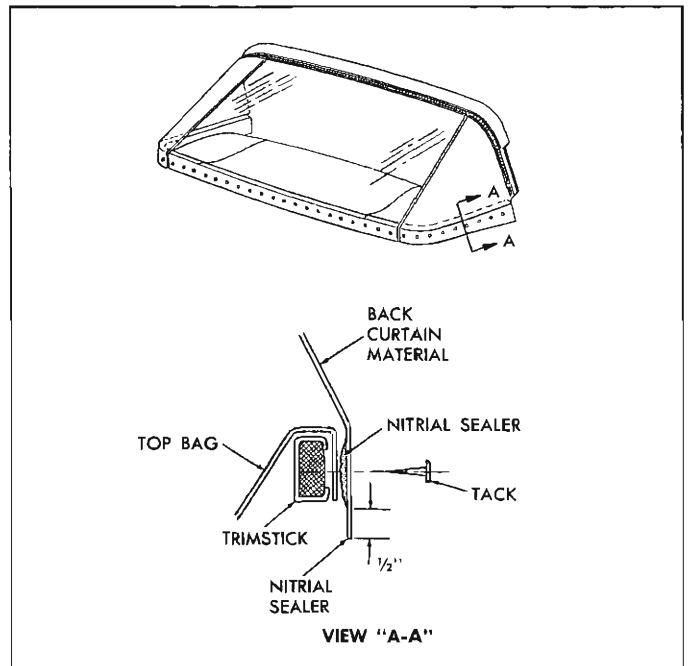
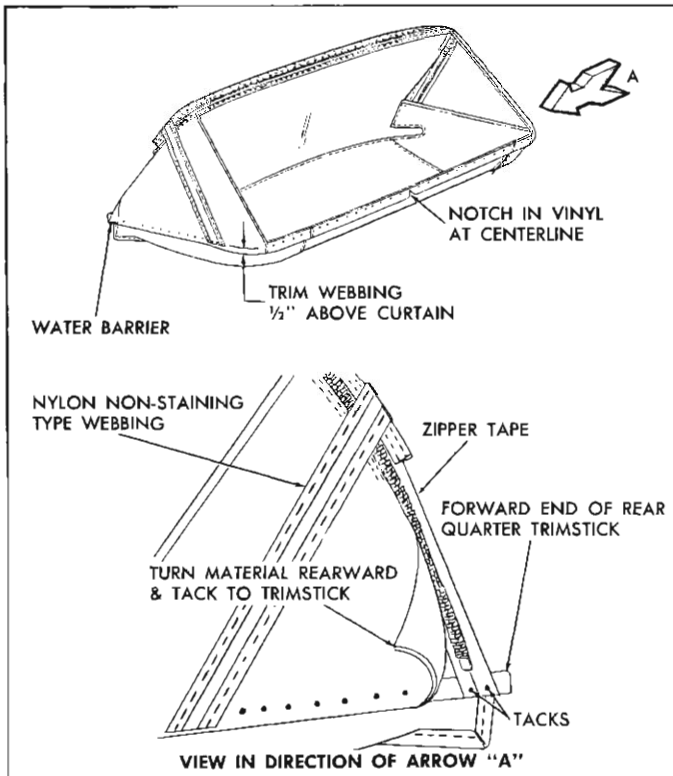

Fig. 62—Back Curtain Sealing
Fig. 63—Back Curtain Installation
6. Place back curtain window assembly on clean covered work bench with exterior (vinyl) surface of back window valance facing down. (Large pliable back window must be handled carefully to avoid possible damage due to scratches, abrasions, etc.) Apply bead of convertible top sealer (nitrile) along lower edge of back curtain material in area which will be tacked to rear and rear quarter trim stick. (See view "A-A" in Figure 62).
7. Apply bead of convertible top sealer (nitrile) along lower selvage edge of back curtain material (see Figure 62).
**NOTE:** Notch in back curtain vinyl at lower edge indicates centerline of back curtain assembly. (see Figure 63). In addition back curtain lower edge should extend 1/2" below lower edge of trim sticks as shown in view "A-A", Figure 62.
10. Tack curtain to rear and rear quarter trim sticks. On right side, tack zipper tape to forward edge of rear quarter trim stick. (See "A" in direction of arrow in Figure 63.)
11. Tack remainder of back curtain material to rear quarter trim stick, turning forward edge of material rearward to form a water barrier (see fig. 63).
13. Tack nylon webbing to rear trim stick. Forward edge of webbing should be even with edge of rear trim stick. New webbing may be cut from a piece of non-staining type webbing 2" x 19". Excess webbing should be trimmed off at rear trim stick, 1/2" above back curtain lower edge (see Figure 63).